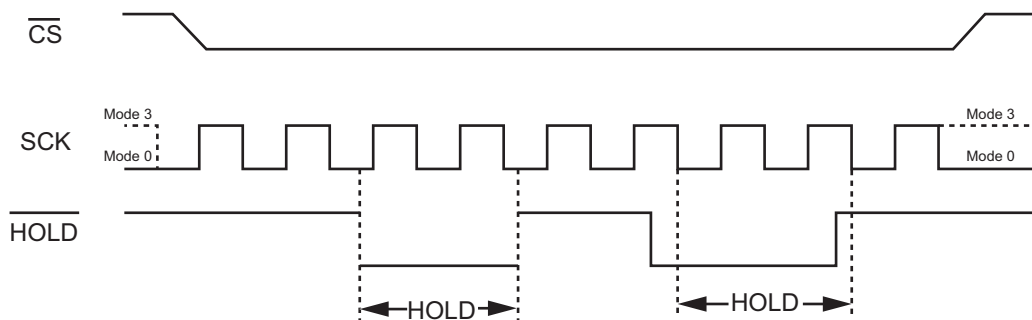

Figure 3. Hold Condition Activation
When $QE=0$, $HOLD/RST=0$, the \overline{HOLD} signal is used to pause any serial communications with the device without resetting the clocking sequence, but does not stop the in-progress operation of write status register, programming, or erasing. During the Hold condition, the Serial Data Output (SO) is high impedance, and Serial Data Input (SI) and SCK are don't care. To enter the Hold condition, the device must be selected, with \overline{CS} low. Normally, the device is kept selected for the whole duration of the Hold condition. Deselecting the device while it is in the Hold condition, has the effect of resetting the state of the device, and this mechanism can be used if it is required to reset any processes that had been in progress. The Hold condition starts when the \overline{HOLD} signal is driven low at the same time as SCK already being low (Figure 3). The Hold condition ends when the \overline{HOLD} signal is driven high at the same time as Serial Clock (SCK) is low. Figure 3 also shows what happens if the rising and falling edges are not timed to coincide with SCK being low.